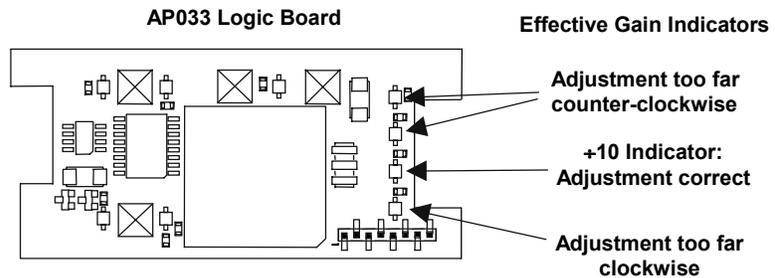

Figure 12. +10 Effective Gain Indicator
7. In Cal Mode, the **EFFECTIVE GAIN** indicators serve as an adjustment indicator. The **EFFECTIVE GAIN** indicators are located on the Logic Board (See Figure 12.) It may be necessary to hold the boards in your hands to see the indicators while making the adjustment.